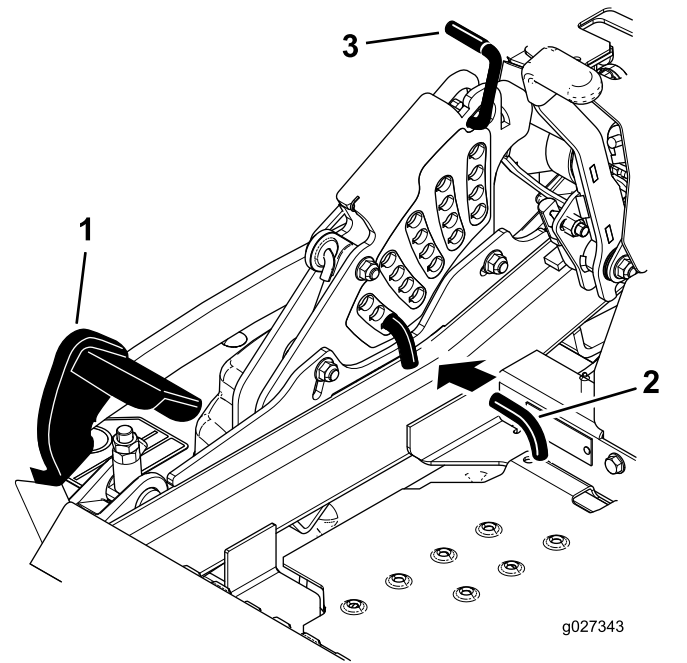

Figure 89
5. Push the deck-lift pedal all the way forward and the deck latches at the 14 cm (5-1/2 inches) transport position (Figure 89).